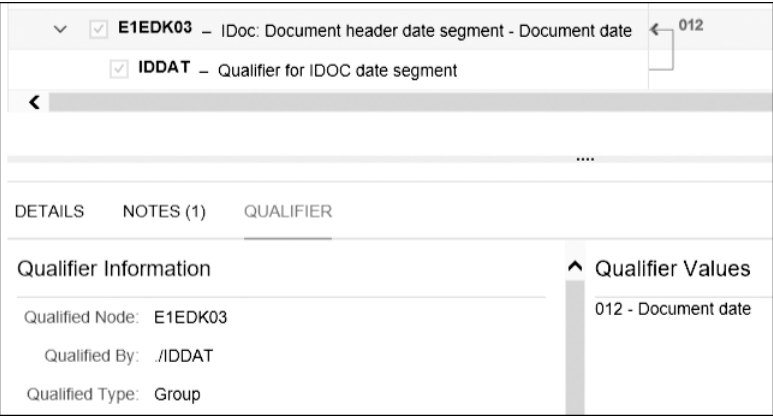

Figure 7.13 Qualified Field in the MIG
6. Using the context menu option **Qualify Node**, you can qualify a node by specifying a qualifier marker and qualifier value. The qualifier is then shown in the structure as an arrow with the defined qualifier value (see Figure 7.13). Using qualifiers helps to simplify the MAG creation in the next step.